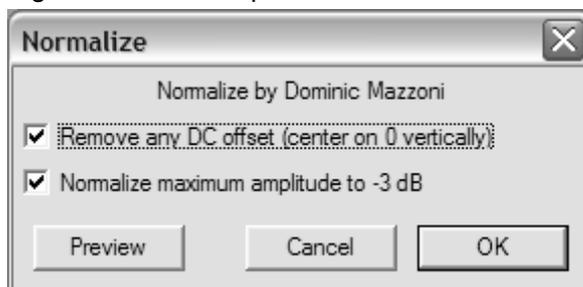

Figure 5: Normalize
b. Normalize should be used to have the correct volume on the recording. (See Figure 5)